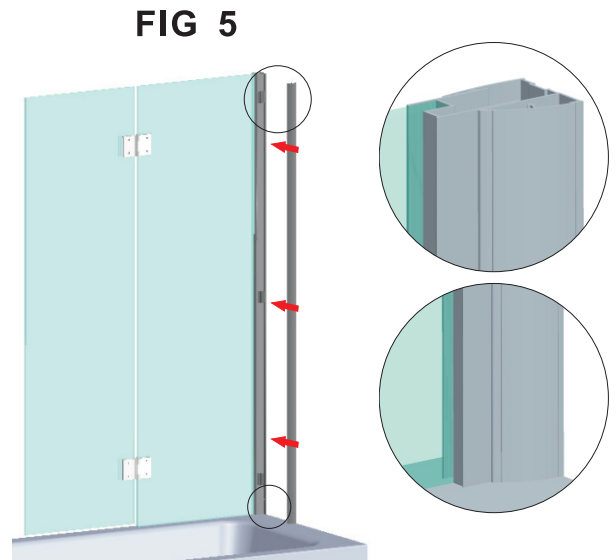

FIG 5
5. Attach the cover strip to the wall profile. Starting at the bottom firmly press cover strip into place and gradually work from bottom to top **Fig 5.**